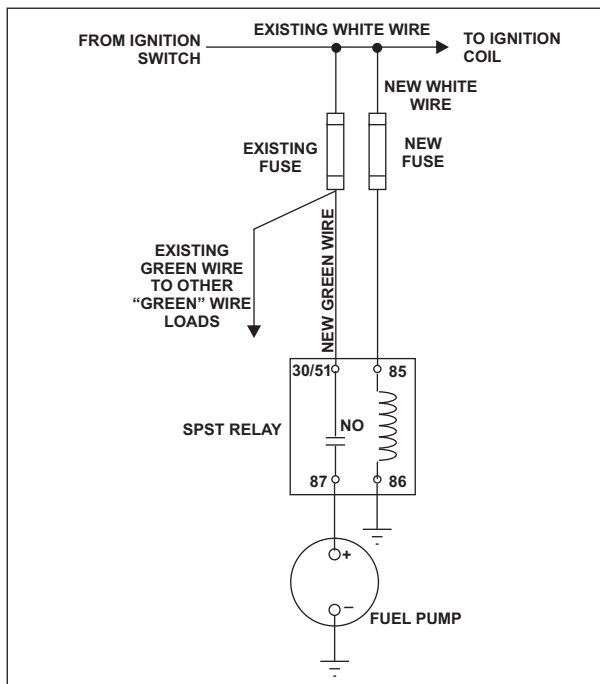

FIGURE 2
**Figure 2** below shows the addition of a relay, and should be used if the pump draws more than five amps. In this design, you **MUST** add a fuse to the line feeding the pump, as the white wires are **NOT** already fused in a Triumph. The lead to the pump will probably be routed under the car for at least a portion of its length, where it will be exposed to the elements, making a fuse necessary.